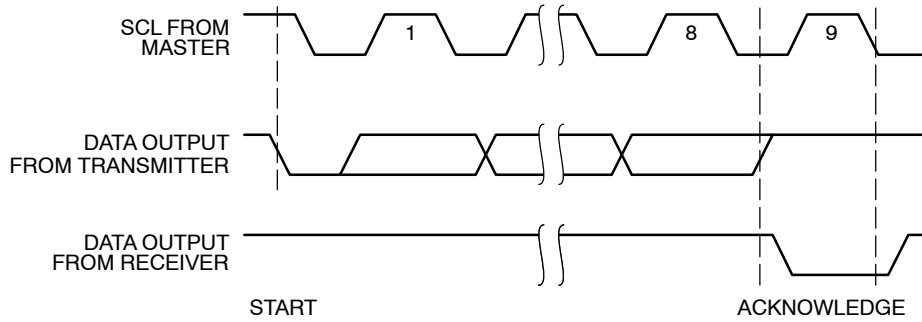
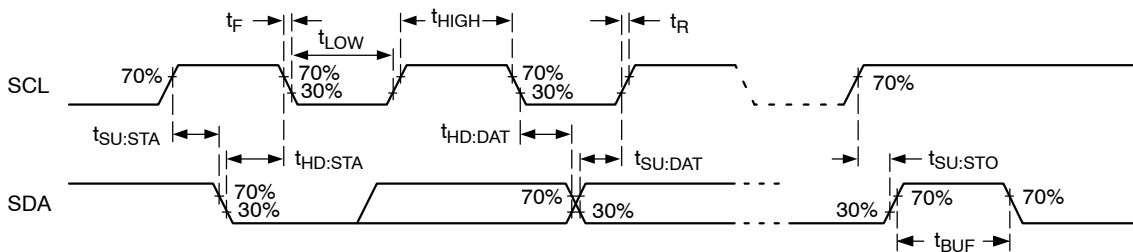

Figure 22. Acknowledge Timing
Figure 23. Bus Timing
4. Timing reference points are set at 30%, respectively 70% of V_{CC} , as illustrated in Figure 23. Bus loading must be such as to allow meeting the V_{IL} , V_{OL} as well as the various timing limits.
A matching Slave address is acknowledged (ACK) by the Slave by pulling down the SDA line during the 9th clock cycle (Figure 22). After that, the Slave will acknowledge all data bytes sent to the bus by the Master. When the Slave is the transmitter, the Master will in turn acknowledge data bytes in the 9th clock cycle. The Slave will stop transmitting after the Master does not respond with acknowledge (NoACK) and then issues a STOP. Bus timing is illustrated in Figure 23.